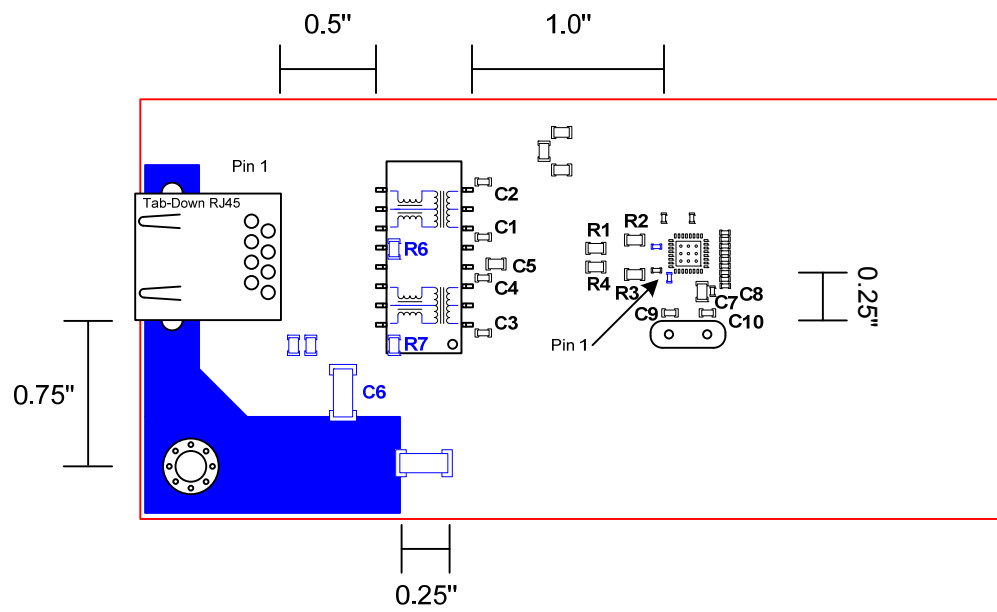

Figure No. 2
3. See Figure No. 2 below for minimum distance requirements related to the RJ45 connector, the magnetics and the LAN88710 Phy.
2. See Figure No. 2 for distance requirements related to the LAN88710 Phy. The crystal and associated components should be located within 0.25" of the LAN88710.